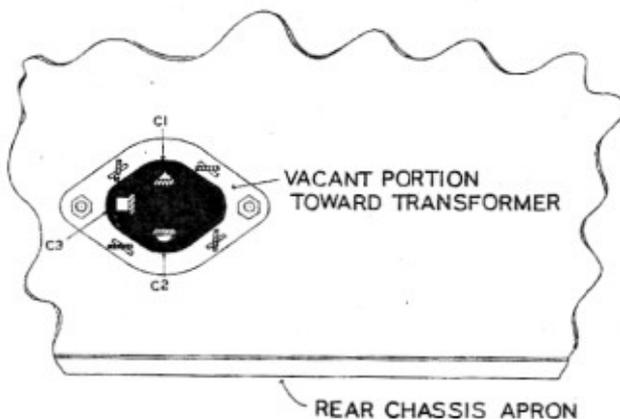

Fig. 1
- ( ) 3. Install the condenser mounting wafer at C using 6-32 hardware. Observe the insulating board at the base end of the filter condenser. This board has been punched with identifying cutouts adjacent to each terminal; a semi-circle, a square, and a triangle. Insert the four lugs on the condenser case through the slots in the metal wafer, with the terminals in the right position. Using long nose pliers, twist each of the four case lugs about one-eighth turn, securing the condenser firmly to the wafer. See Figure 1.